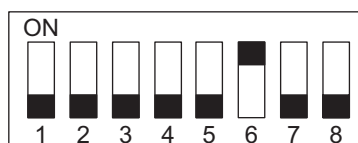

Fig. 3-114
- (1) Remove the right inner cover and the rear cover.
- (2) Adjust the front jogging plate to the home position.
- Set SW1 on the finisher controller PC board as shown in Fig. 3-114.